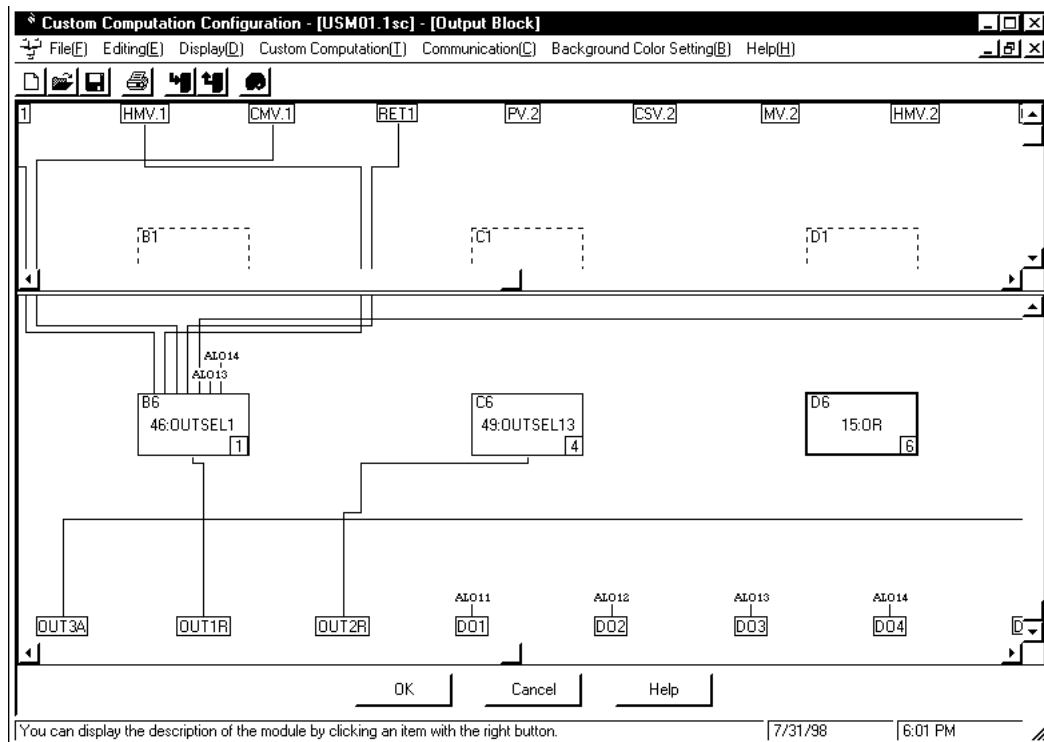

Figure 12.7.5 Example of the [Output Block] Dialog Box where the OR Module Is Registered As the Sixth-run Module
- ③ Click the <Logic Calculation> index.
- ④ Double-click <15: OR>. The OR module is registered with the [Output Block] dialog box, as shown in Figure 12.7.5.